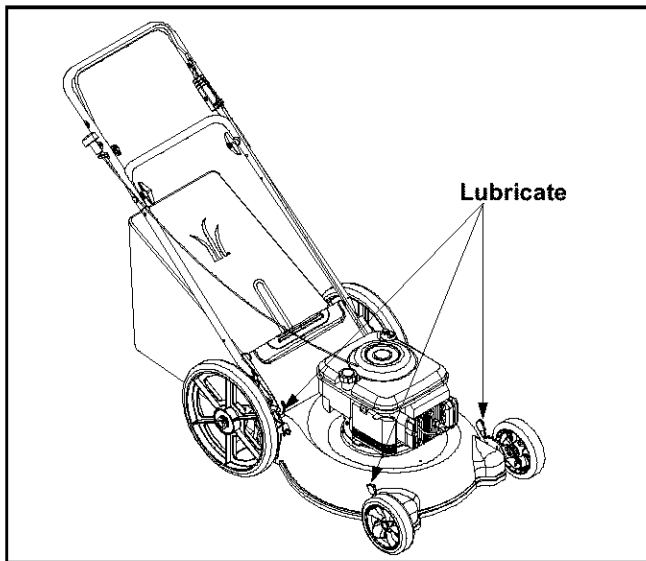

Figure 12
**Blade Control:** Lubricate the pivot points on the blade control handle at least once a season with light oil. The blade control must operate freely in both directions. See Figure 12.
any reason, lubricate the surface of the axle bolt and inner surface of the wheel with light oil. See Figure 12.
**Chute Deflector:** Lubricate the torsion springs and pivot points on chute deflector using light oil. This will insure the deflector, which is a safety device, can always work properly. See Figure 12.
- Remove the bolt and the blade bell support which hold the blade and the blade adapter to the engine crankshaft. See Figure 12.